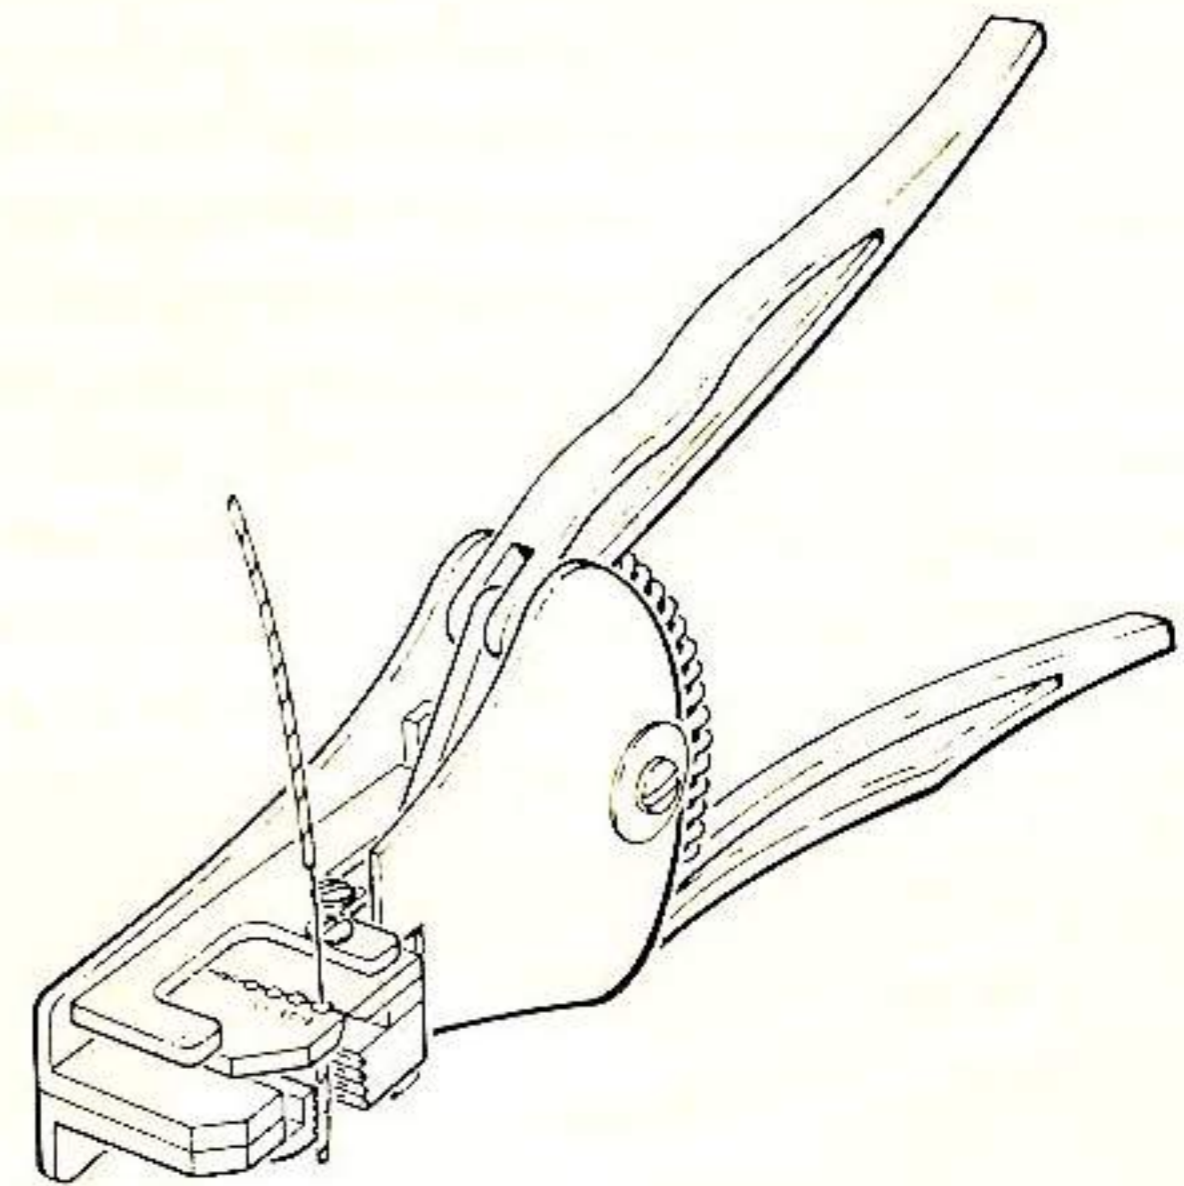

Figure 2. Proper Cutting Type Stripper
b. Non-adjustable, factory-set, cutting type strippers may be used on wires larger than 22 awg. See figure 2.